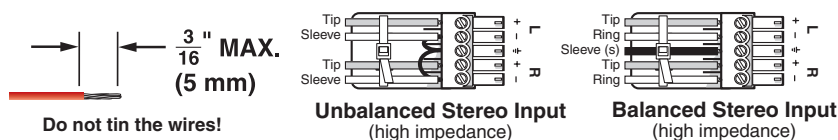
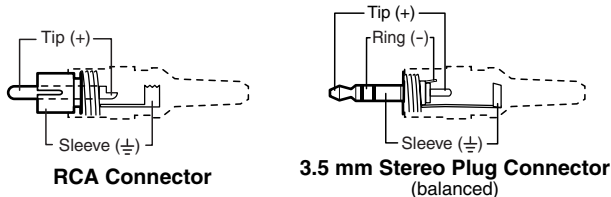
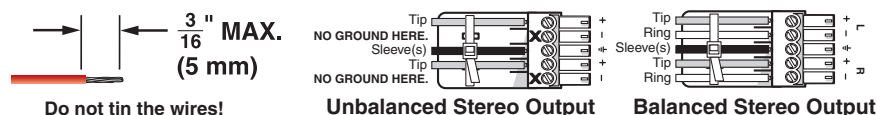

Figure 2-16 — Captive screw connector wiring for audio inputs
Figure 2-17 — Typical audio connectors
Figure 2-18 — Captive screw connector wiring for audio output
- ④ **Connections for balanced and unbalanced audio inputs** — Each input has a 3.5 mm, 5-pole captive screw connector for balanced or unbalanced stereo audio input. Connectors are included with each switcher, but you must supply the audio cable. See figure 2-16 to wire a connector for the appropriate input type. Use the supplied tie-wrap to strap the audio cable to the extended tail of the connector. High impedance is generally over 800 ohms.
NOTE See figure 2-17 to identify the tip, ring, and sleeve when you are making connections for the switcher from existing audio cables. A mono audio connector consists of the tip and sleeve. A stereo audio connector consists of the tip, ring and sleeve. The ring, tip, and sleeve wires are also shown on the captive screw audio connector diagrams, figure 2-16 and figure 2-18.
- ⑤ **Connections for balanced and unbalanced audio outputs** — These 3.5 mm, 5-pole captive screw connectors output the selected unamplified, line level audio. Connect audio devices, such as an audio amplifier or powered speakers. See figure 2-18 to properly wire an output connector. Use the supplied tie-wrap to strap the audio cable to the extended tail of the connector.